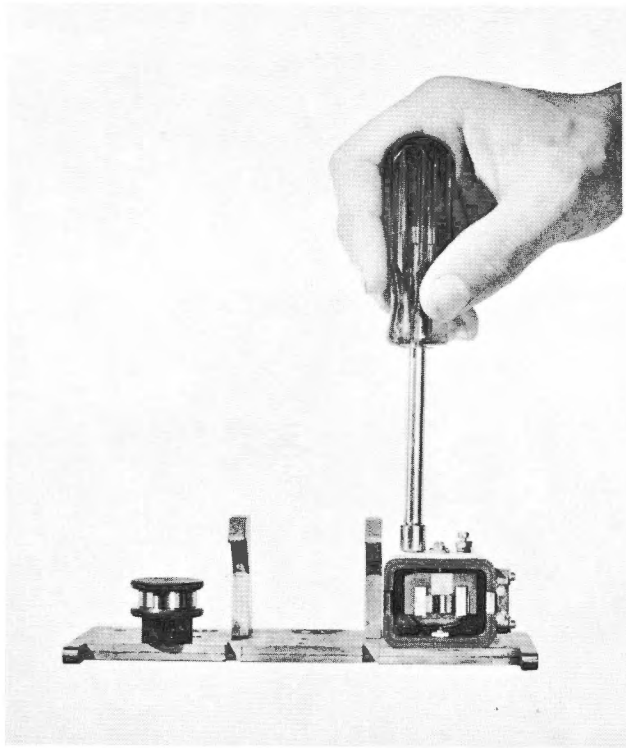

figure 6-4 — Reproduce Head Azimuth Adjustment
- Step 6:* The next tone will be 15000 c/s at 7 $\frac{1}{2}$ and 15 ips, and 7500 c/s at 3 $\frac{3}{4}$ ips for adjusting reproduce head alignment. (See figure 6-4.) Take the number 8 nutdriver and adjust the left hand stop nut on the reproduce head for maximum output on the valve voltmeter. If the peak is broad, adjust for minimum output variation.